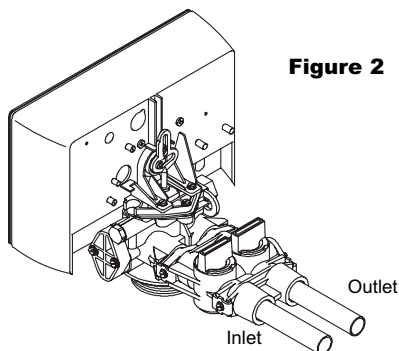

Figure 2
- Connect the raw water supply to the inlet pipe connection of the yoke. When looking at the front of the system, the inlet is the pipe connection on the right side of the valve (see figure 2). The arrow molded into valve indicates the direction of flow.
- Connect the treated water pipe to the outlet pipe connection on the yoke. When looking at the front of the system, the outlet is the pipe connection on the left side of the valve (see figure 2). The arrow molded into the valve indicates the direction of flow.